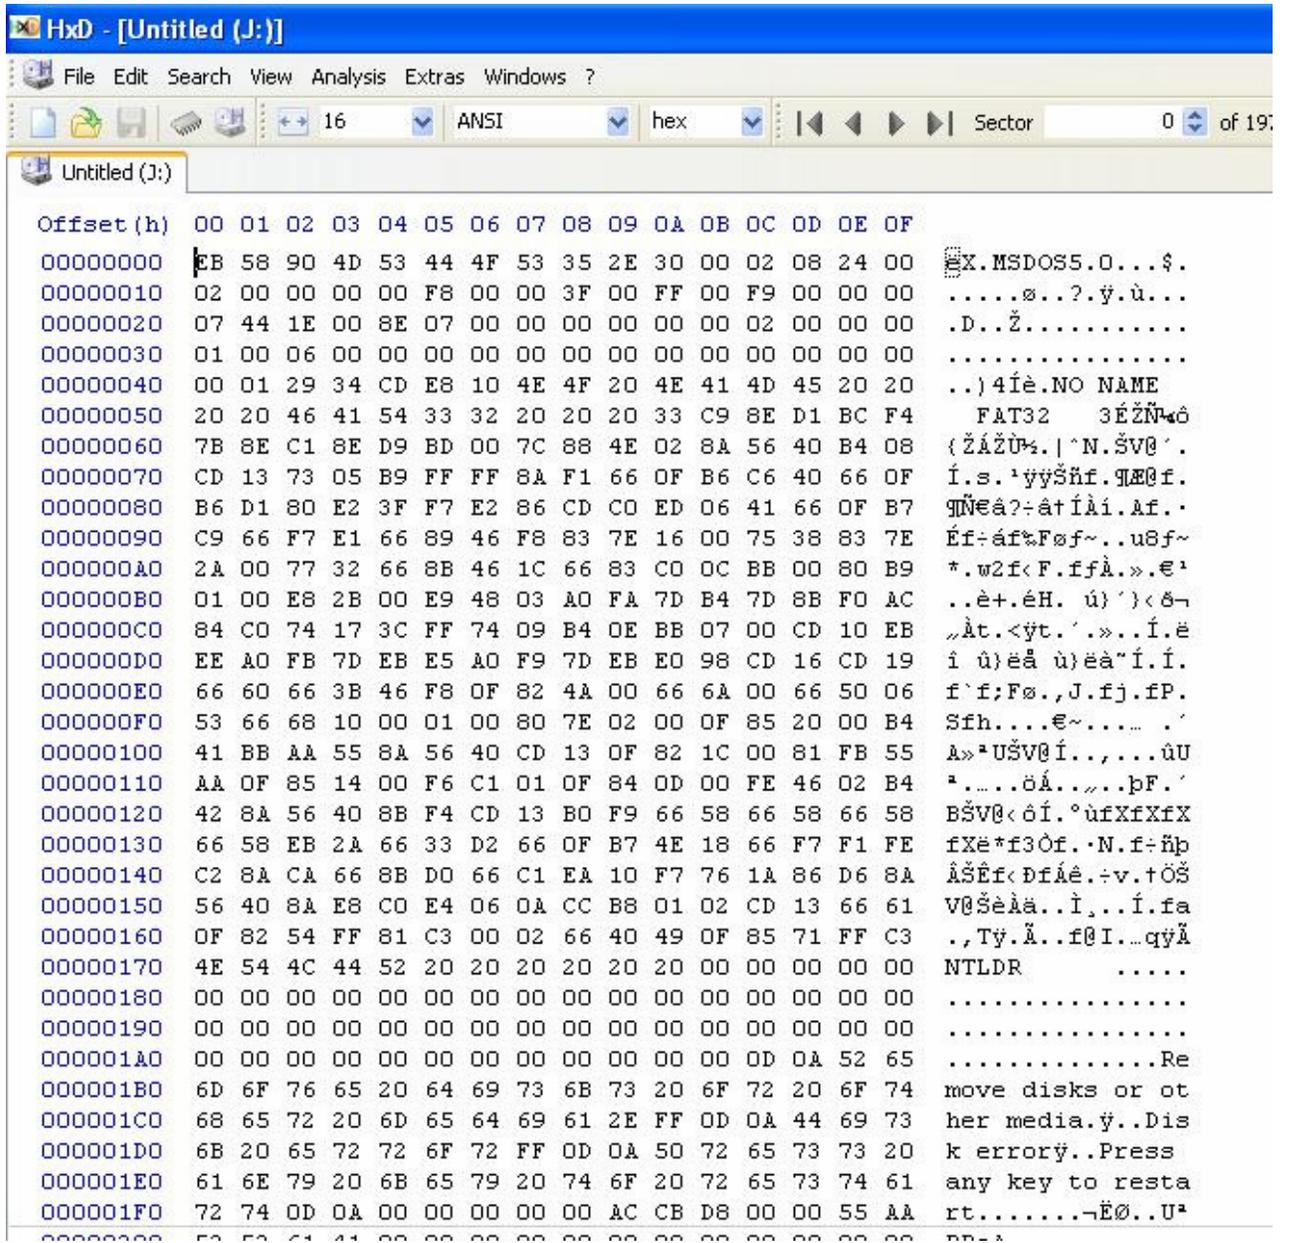

Figure 1 : File format of SD card FAT32 system
Step 10 : Please refer to figure 1 to ensure that the read value correspond to the value below. First value shall be "EB", last 2 values shall be "55 AA"